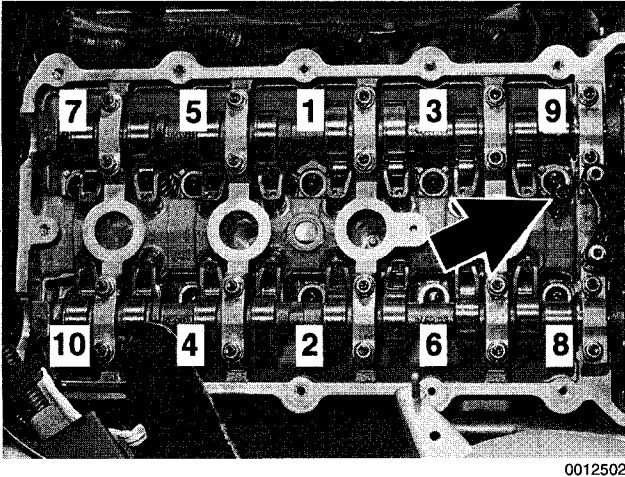

Fig. 17. Cylinder head bolt tightening sequence for 4-cylinder engines. Note oil supply tube seal (arrow) on M44 engine.
8. Tighten cylinder head bolts in correct sequence. See Fig. 17.
On M44 engines, replace seal for oil supply tube. See Fig. 17.)